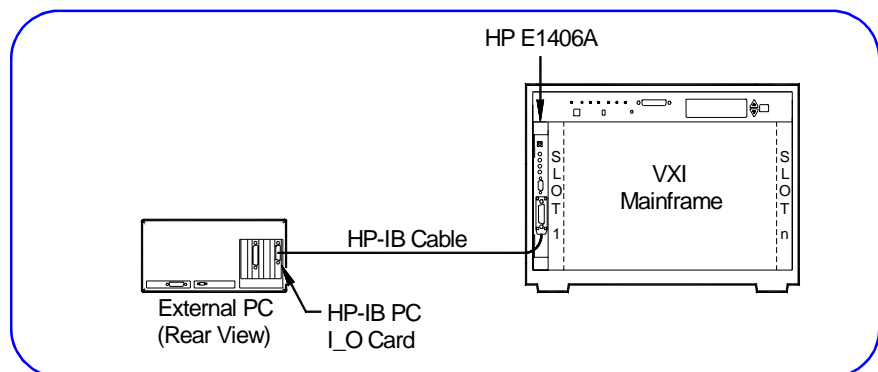

Figure 27. HP VIC Connections
- 1 If not already done, connect an HP_IB cable as shown in Figure 27. To do this, turn PC and mainframe power OFF and make the connections. Then, turn PC and mainframe power ON.